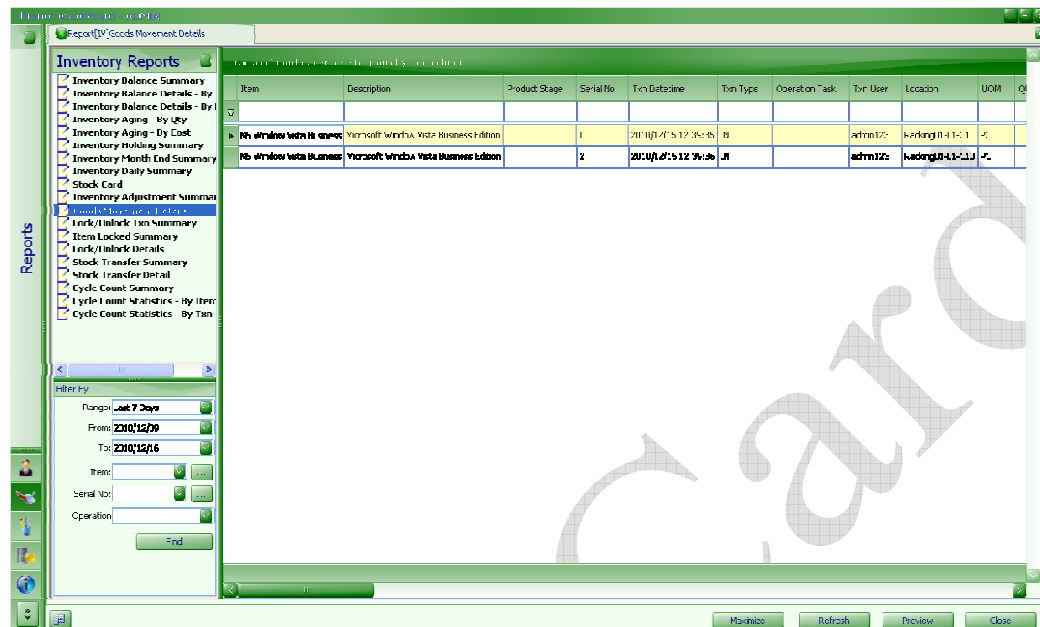

Fig. 42
Step 1 Click “Reports > Inventory > Goods Movement Details” (Fig. 42)